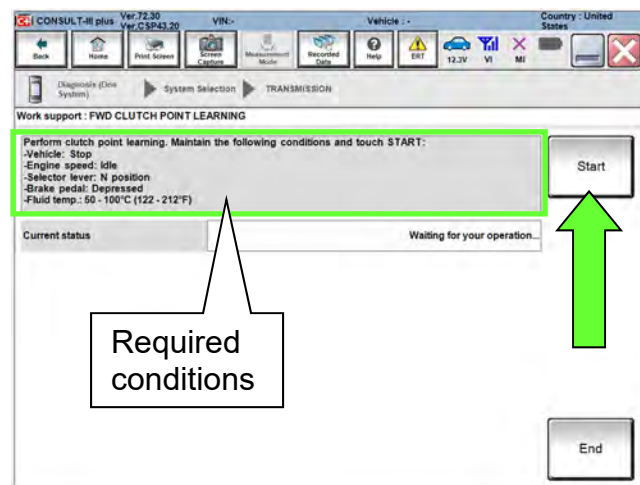

Figure 47
59. With the engine still running and at idle, depress the brake pedal and shift the CVT into neutral (N).
- Confirm that all of the conditions indicated in Figure 47 are being met.
61. While maintaining all conditions shown in Figure 47 and the Current status indicates EXECUTING, shift the CVT into **R** and then wait until the Current status indicates COMPLETED.